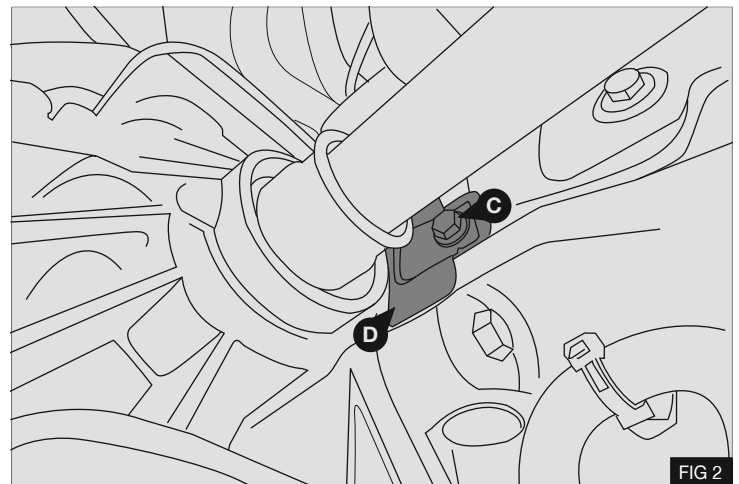

FIG 2
3. Remove and retain the M6 bolt (C) and flywheel protection plate (D) located at the rear of the engine behind the driveshaft - Fig 2